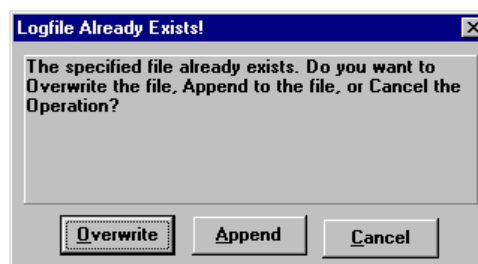

Figure 6-12. Logfile Already Exists Window
- If a logfile that already exists is chosen, the **Logfile Already Exists** window (**Figure 6-12**) appears, asking if the user wants to overwrite the existing file or append the status messages to the end of the existing file. Choose OVERWRITE or APPEND to begin logging in the file or CANCEL to close the dialog without opening the logfile.